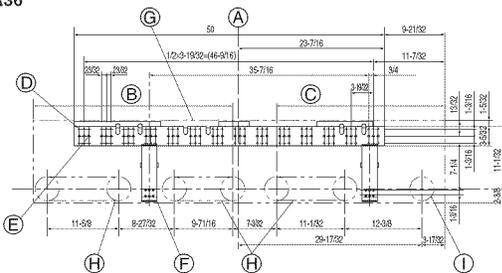

Fig. 3-2
③	Insulation material	2
④	Band	4 (large) + 5 (small)
⑤	Felt tape	3
⑥	Drain socket	1
⑦	Wireless remote controller	1
⑧	Remote controller holder	1
⑨	Alkali batteries	2
⑩	Wired remote controller	1
⑪	Drain adaptor	1
⑦ - ⑨ are stored in a cut-out section of the packing material (styrofoam).
3.2. Installing the wall mounting fixture (Fig. 3-2)